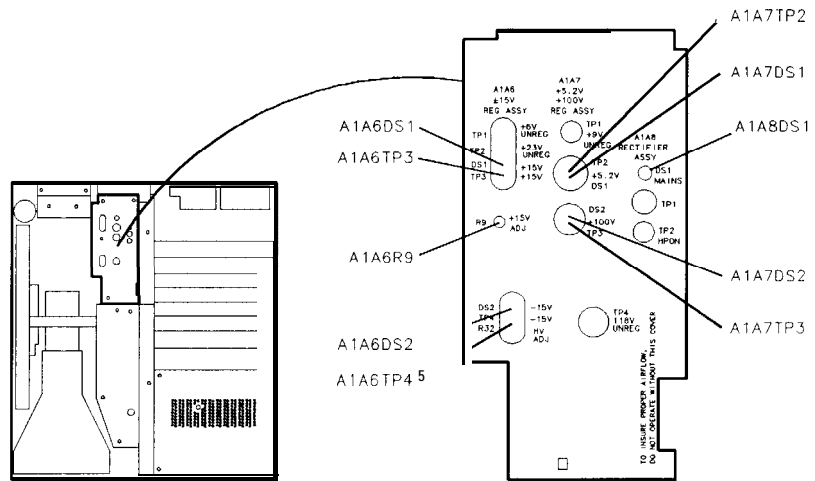
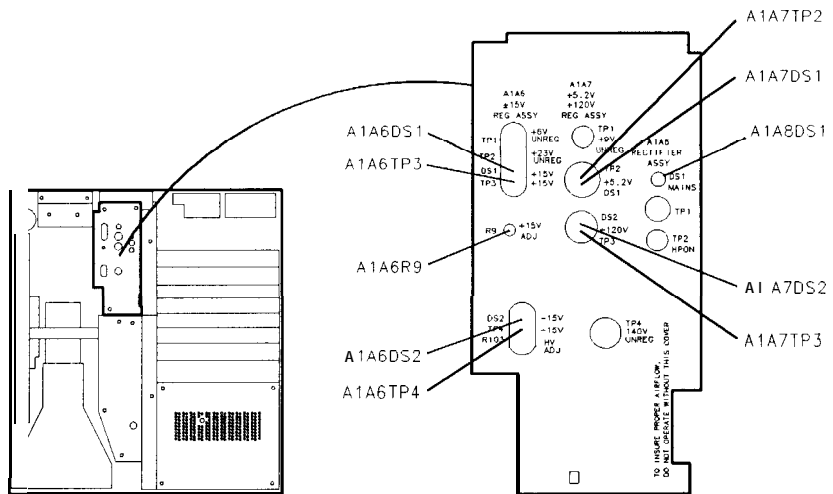

Figure 3-2.
Figure 3-3.
2. Set the LINE switch to ON and press (IP). Mains indicator A1A8DS1 (red LED) in the IF-Display Section should be lit. See Figure 3-2 and Figure 3-3 for the location of A1A8DS1.
Use Figure 3-2 for IF-Display Sections with serial numbers 3001A and below. Use Figure 3-3 for IF-Display Sections with serial numbers 3004A and above.